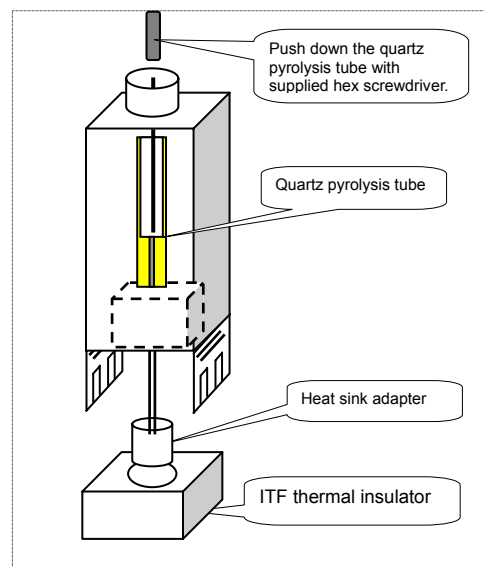

Fig3.9 Install quartz pyrolysis tube
5. From the top of the pyrolyzer gently push down the pyrolysis tube with the tip of a supplied wrench (12mm) and continue pushing the quartz tube down until it hits the ITF union (Fig. 3.9). The presence of dead space between the bottom of the pyrolysis tube and ITF union results in peak broadening on the chromatograms.